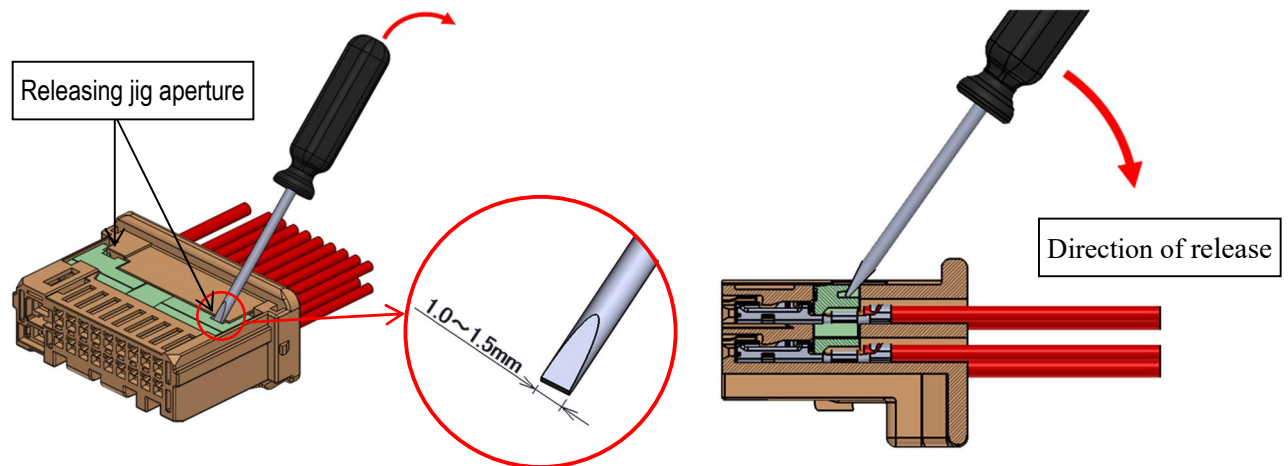

Fig 30. How to release the retainer
- ① Insert a screwdriver with a width of 1.0 mm to 1.5 mm into the releasing jig aperture (2 places) in the bottom surface of the female housing, and push out the retainer. (see Fig.30).